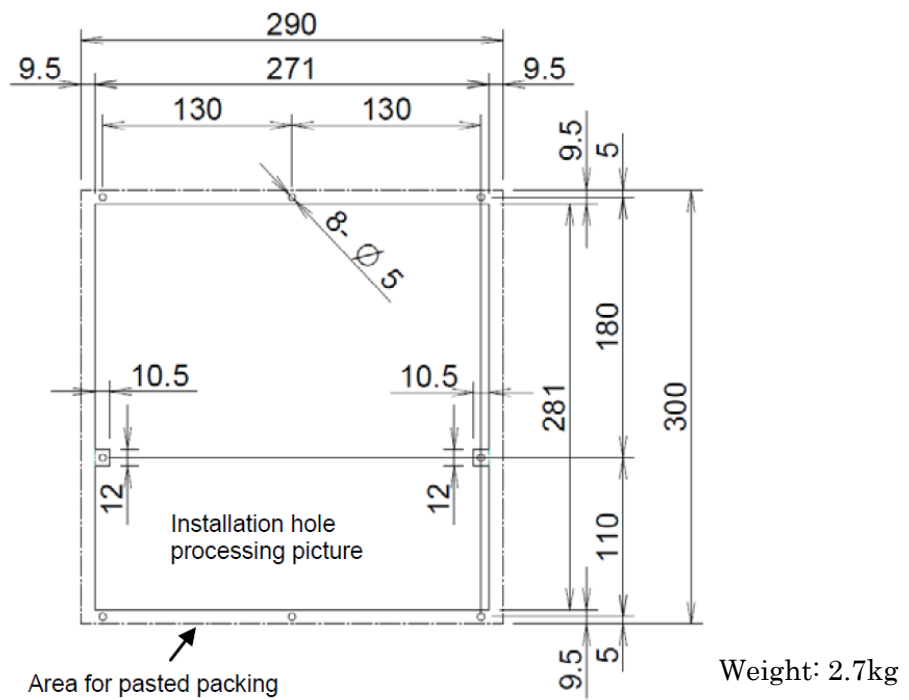

Fig. U17 10.4" LCD/MDI unit B(Vertical) ⑧
| | 10.4" LCD/MDI unit B(Vertical) | Fig. U17 | ⑧ |